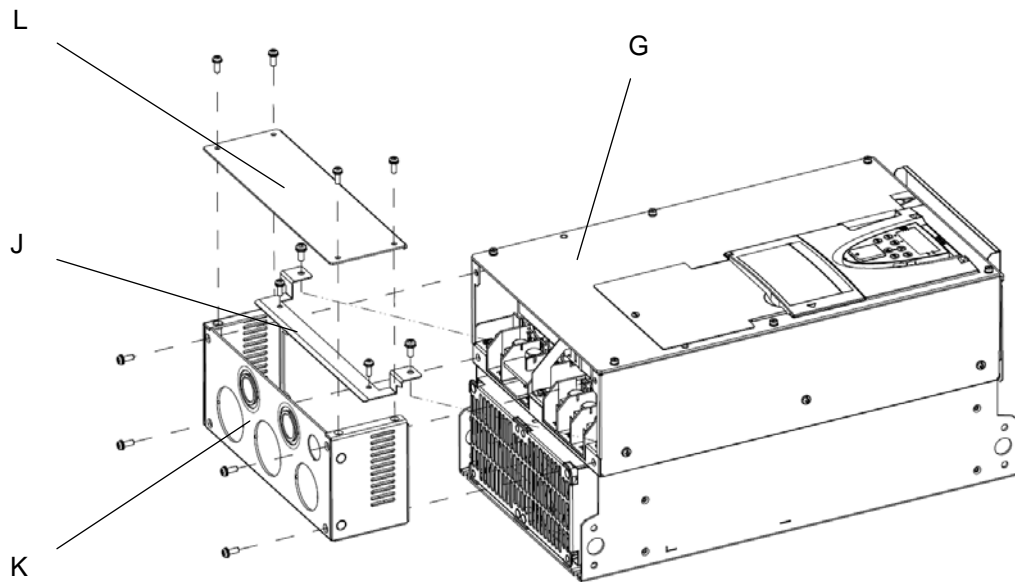

Figure 9
- Step4: Attach the conduit box support bar (J) to the inverter with two M5 screws. See figure 9.
- Step5: Attach the conduit box (K) to the conduit box support bar (J) with two M4 screws. See figure 9.
- Step6: Attach the conduit box (K) to the inverter with four self-threading screws (8-32). See figure 9.
- Step8: Attach the conduit box cover (L) to the conduit box (K) with four M4 screws. See figure 9.
- Step9: Replace the inverter cover (G) removed in step2.